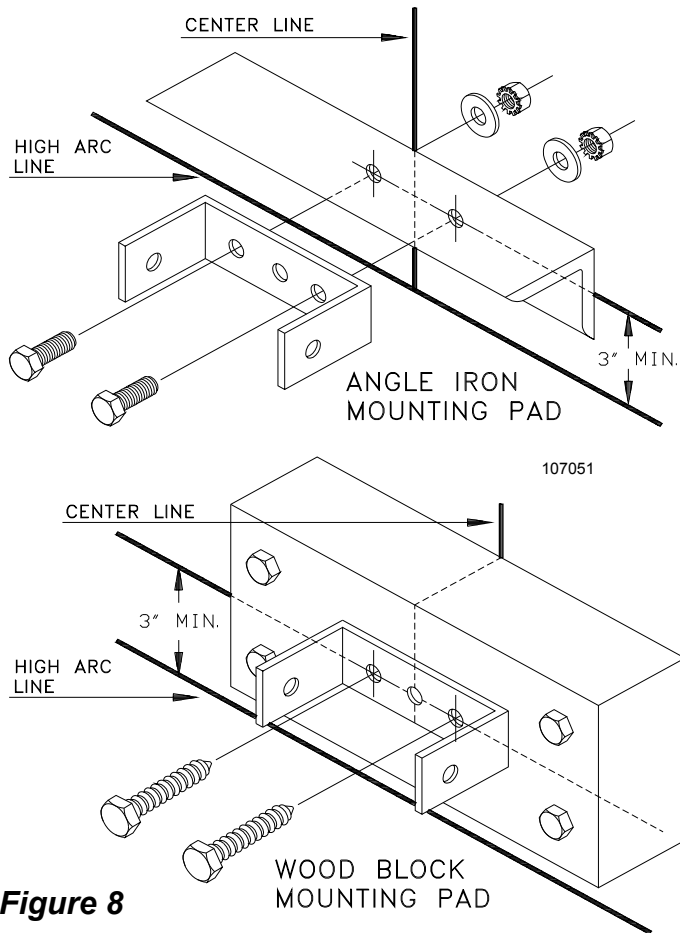

Figure 8
4) Mount the front mounting bracket (Item 9) to the mounting pad as shown in Figure 8. The location of the door's torsion shaft may prevent you from placing the mounting pad in the location shown. Mount the pad as close as possible to three (3) inches above the door's high arc point.